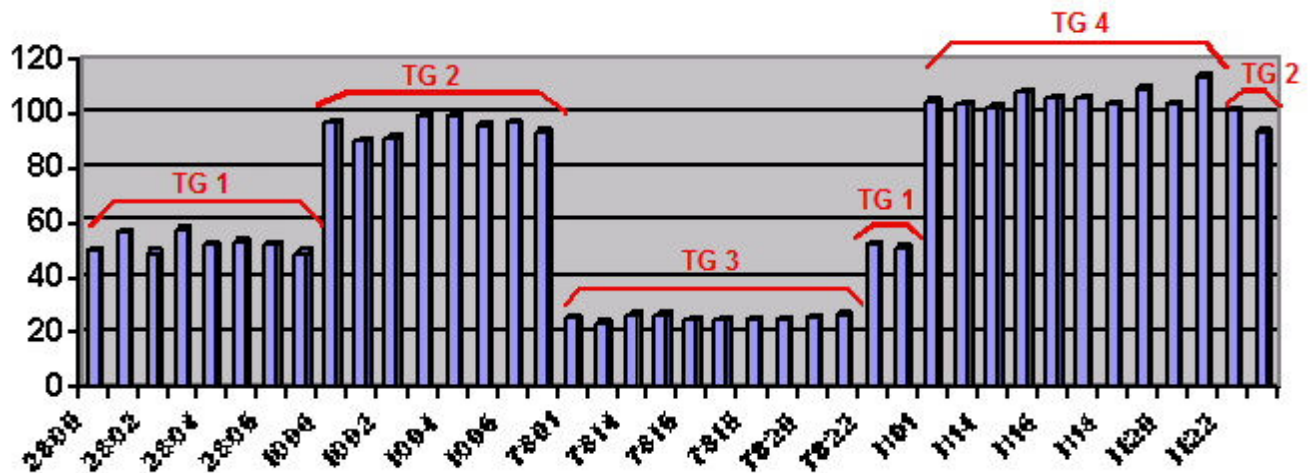

Figure 3 – Call Counts by Trunk Graph
**Trunk Utilization Analysis** It is important to have Benchmark for the trunks before any analysis is performed. It is the Benchmark that helps you determine how many Trunks Groups there are. The Trunk Utilization Report lists calls by Trunk per hour. By looking at call counts, as data will identify trunks groups, a graph can make it easier to see. Figure 3 shows a call count by trunk graph.